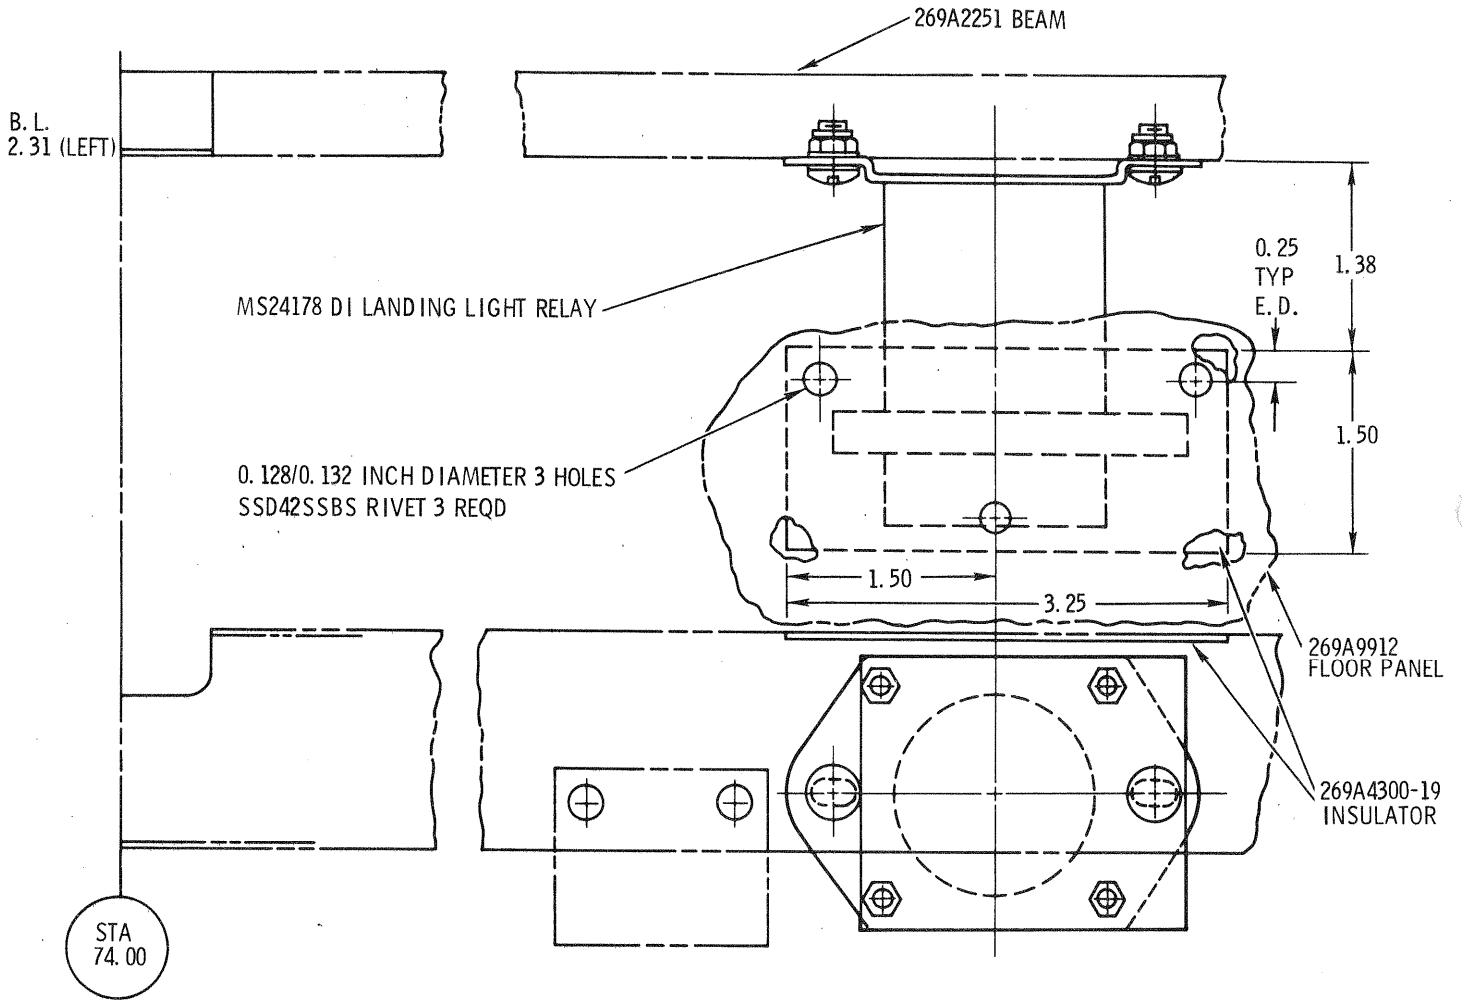

Figure 1. Installation of Electrical Insulator, 269A4300-19
- e. Drill three 0.128/0.132 inch diameter holes in floor panel at dimension shown in Figure 1; use new 269A4300-19 insulator as template.